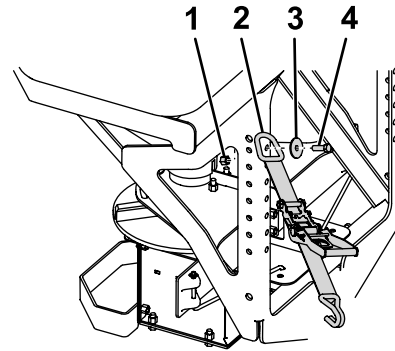

Figure 10
- Attach the D-ring end of the ratchet straps to the upper holes on the outside of the spreader frame using a bolt (1/2 inch), washer (1/2 inch), and locknut (1/2 inch) and torque the bolts to 76 Nm (56 ft-lb) as shown in Figure 10.